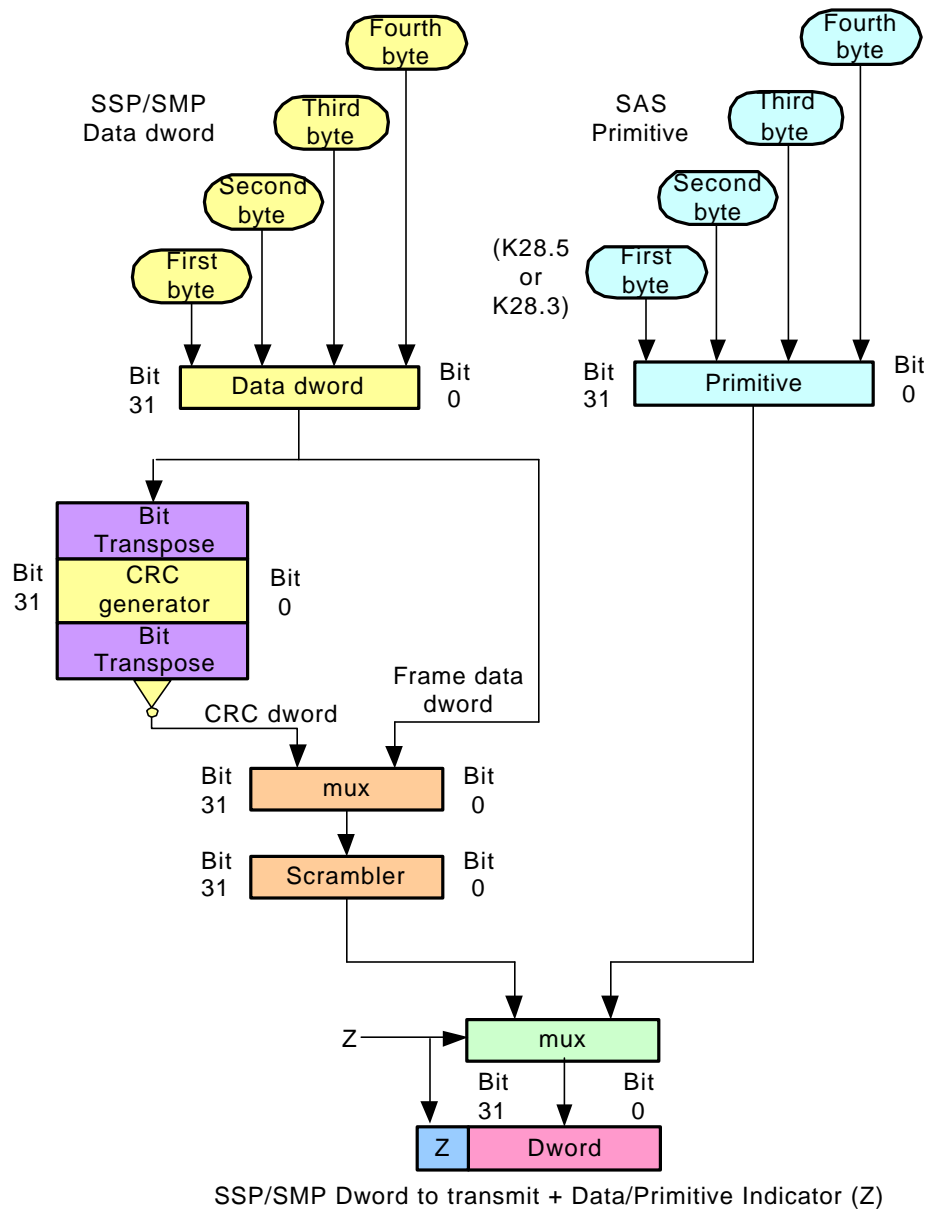

Figure 56 – SSP/SMP Transmit path byte and bit ordering
3) Figures 56 and 57 do not show the bit transposition and inversion logic associated with the SSP/SMP CRC generator/checker. Propose to replace with the following figures: